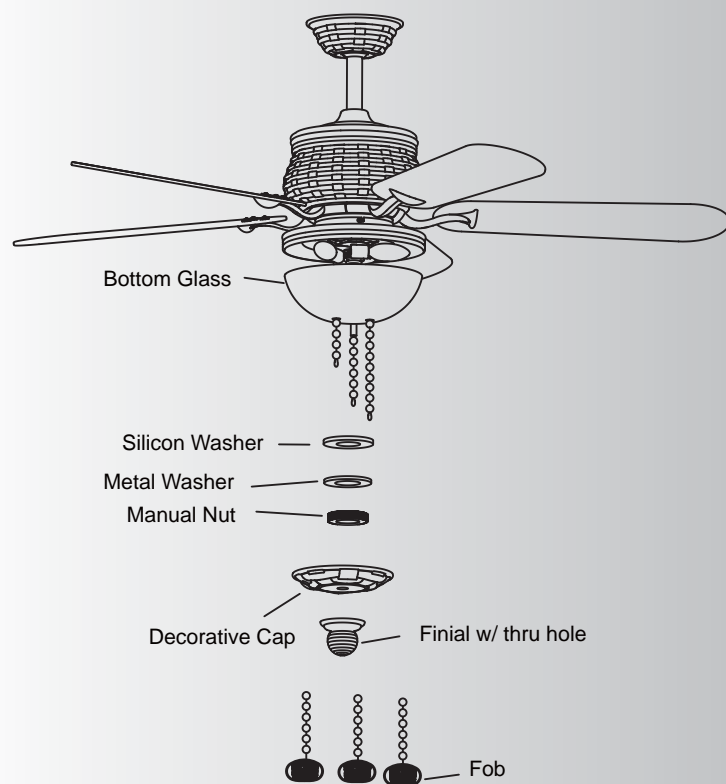

Fig. 4
Step 7. Feed the three (3) pull chains from light kit through the holes in the center of glass shade. Now secure the glass shade to the fixture by fitting it up securely to the light kit. Secure the glass shade with the washer (rubber against the glass), metal washer and manual nut. (Fig. 4)
Step 9. Attach each of the three (3) decorative fobs to the pull chains. (Fig. 4)